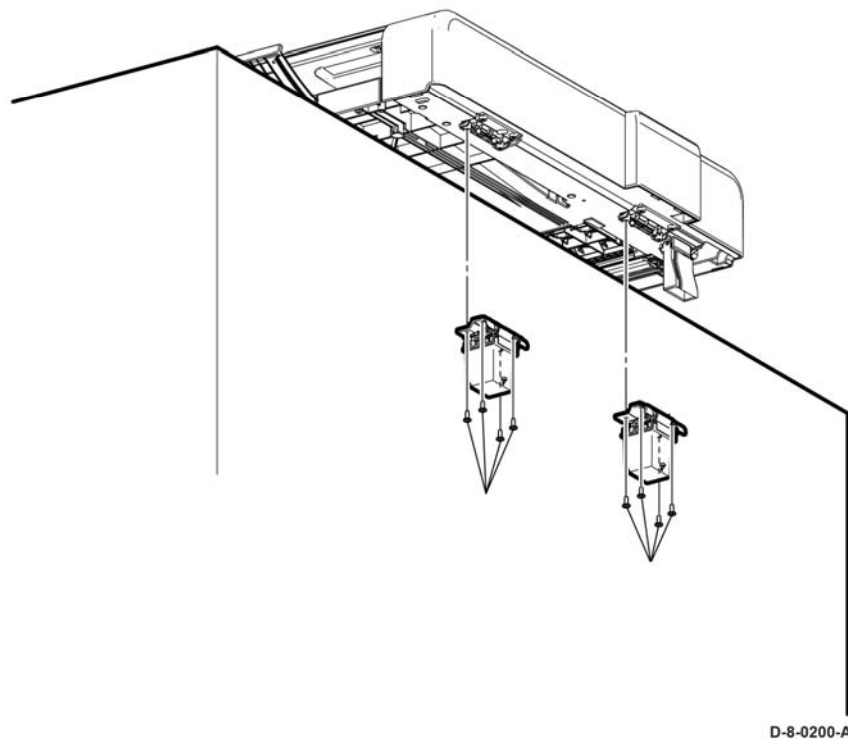

Figure 1 Remove the Hinges
2. Refer to Figure 1, rest the DADF on the work surface as shown.
3. Refer to Figure 1, remove eight screws (silver, tapping, m3x8), remove the left and right hinges.